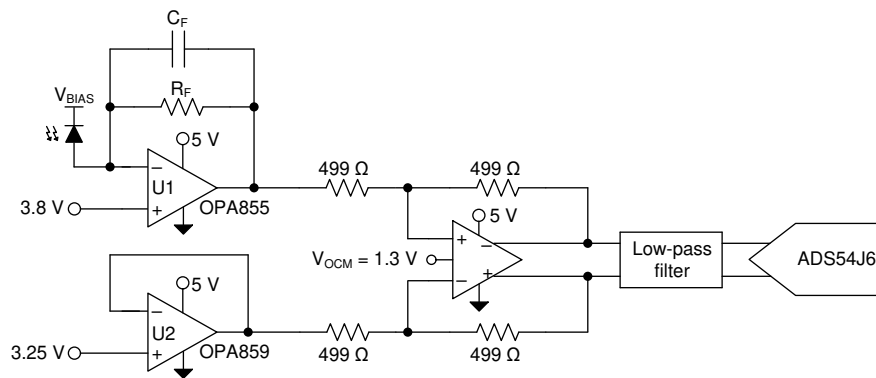
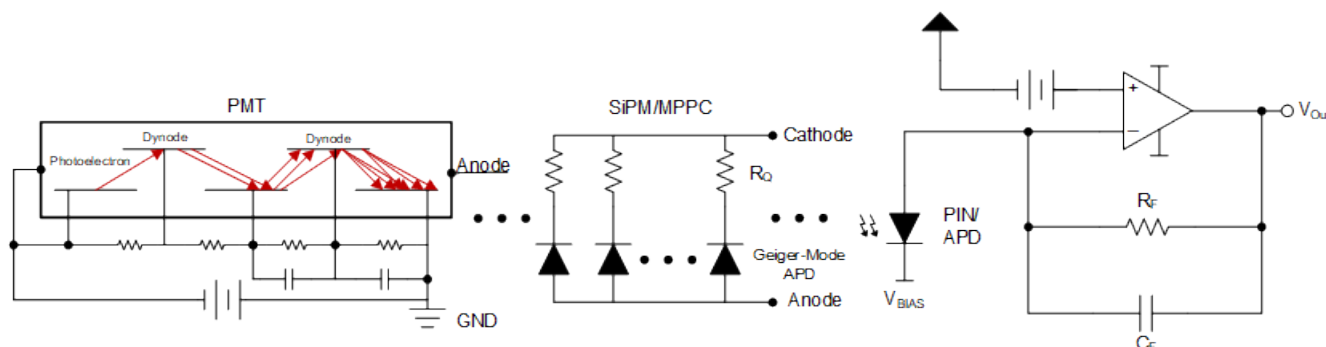

图 10-1. OPA855 as a TIA in an Optical Front-End System
图 10-5. Transimpedance Amplifier with APD or SiPM/MPPC or PMT Inputs
图 10-1 shows the OPA855 configured as a transimpedance amplifier (U1) in a wide-bandwidth, optical front-end system. A second amplifier, the OPA859-Q1, configured as a unity-gain buffer (U2) sets a dc offset voltage to the THS4520. The THS4520 is used to convert the single-ended transimpedance output of the OPA855 into a differential output signal. The THS4520 drives the input of the ADS54J64, 14-bit, 1-GSPS analog-to-digital converter (ADC) that digitizes the analog signal.
图 10-1 shows the OPA855 configured as a TIA, with the avalanche photodiode (APD) reverse biased so that the APD cathode is tied to a large positive bias voltage. In this configuration, the APD sources current into the op amp feedback loop so that the output swings in a negative direction relative to the input common-mode voltage. To maximize the output swing in the negative direction, the OPA855 common-mode voltage is set close to the positive limit; only 1.2 V from the positive supply rail. The feedback resistance ( $R_F$ ) and the input capacitance ( $C_{IN}$ ) form a zero in the noise gain that results in instability if left unchecked. To counteract the effect of the zero, a pole is inserted into the noise gain transfer function by adding the feedback capacitor ( $C_F$ ).
OPA855 offers 8 GHz of gain bandwidth, high slew-rate, and low noise which makes this device suitable for a wide range of photodetectors. 图 10-5 shows the OPA855 configured as a transimpedance amplifier (TIA) in a wide-bandwidth, optical front-end system. Various types of optical sensors can be used as an optical input to the amplifier: photodiode (PD), avalanche photodiode (APD), Photomultiplier Tube (PMT), and Multi-Pixel Photon Counter (MPPC) or known as Solid-State Photomultiplier (SiPM). Optical detection applications have commonly used APDs, but ultra-low light source detection has been a challenge in past solutions. With technologies such as PMTs and MPPCs, their high intrinsic gain, while maintaining a fast output, requires a low noise, high-speed interface. The OPA855 can accommodate for these optical challenges and would work equally as well in these applications.
图 10-5 shows the OPA855 configured as a TIA, with the optical sensor reverse biased so that the diode cathode is tied to the positive bias voltage. A RC filter can be used at the reverse bias node as a low pass filter to eliminate high frequency noise. The internal capacitance of photodetectors will vary based on sensor type and the value of the applied reverse voltage. The setups between each sensor type will slightly differ, but the connection to the amplifier will be consistent throughout.
The DC voltage bias at the non-inverting input of the OPA855 shown in 图 10-5 will set the common-mode voltage which will maximize the output swing of the system in mismatched power supply configurations. The DC bias is critical to avoid clipping or saturating the output stage of the amplifier. For the later stages, a fully differential amplifier (FDA) can be used to convert single-ended signal to a differential input to drive an analog-to-digital converter (ADC) as shown in 图 10-1. Higher order filters can be added between the FDA and ADC for system noise reduction.